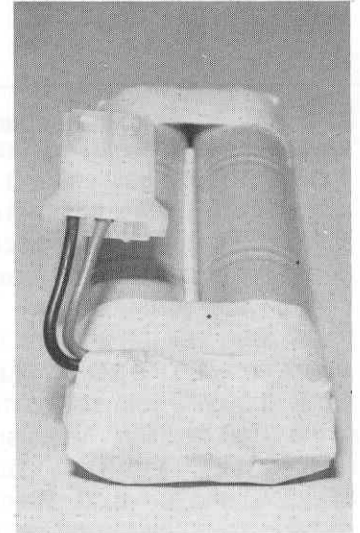

Fig. 186
□ **Fig. 186** Now wrap both ends of the battery with strapping tape or black electrical tape, as shown.